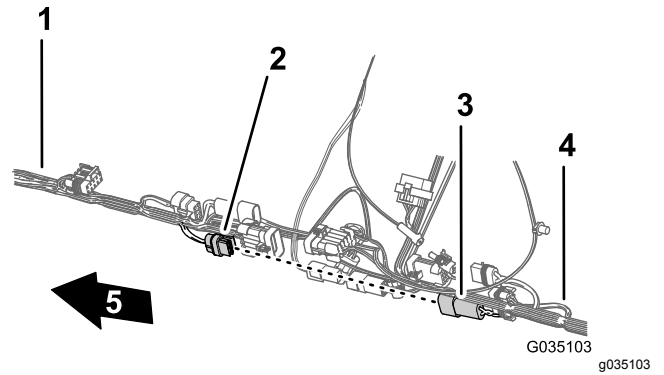

Figure 89
4. Connect the 2-pin connector of the front harness for the rinse pump into the 2-socket connector of the rear harness for the rinse pump (Figure 89).